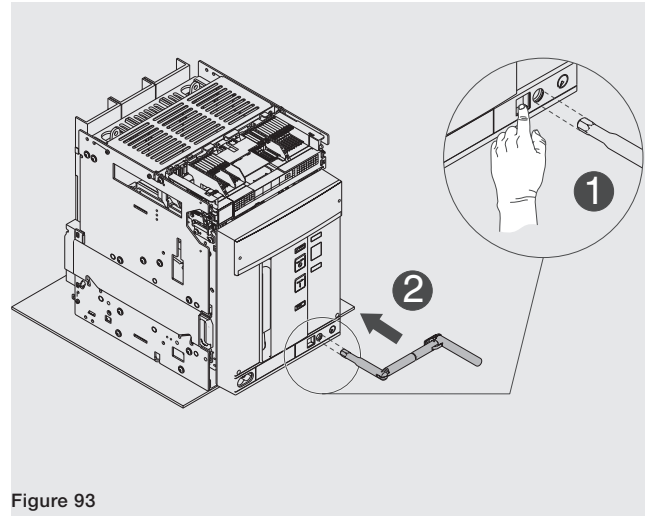

Figure 93
9. Press the lock pushbutton and fit the handle into the moving part. In this phase, the moving part will still be in the **DISCONNECT** position. See Figure 93.